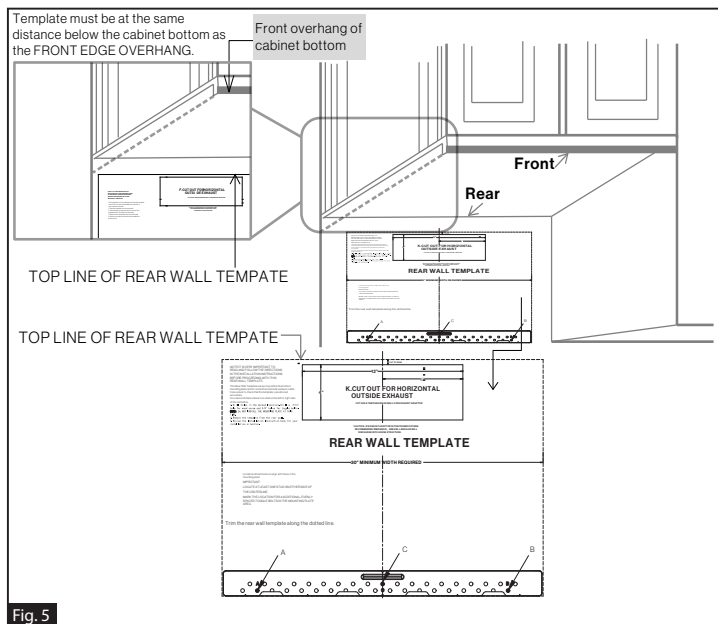

Fig. 5
3. Beneath framed recessed bottom cabinet with front overhang (Fig. 5)